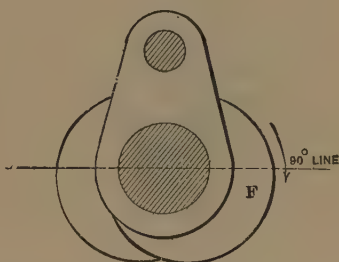

Fig. 193. Two Eccentrics, Lapless Valve, no rocker.
A. As shown in Fig. 193, each one 90° ahead of the crank